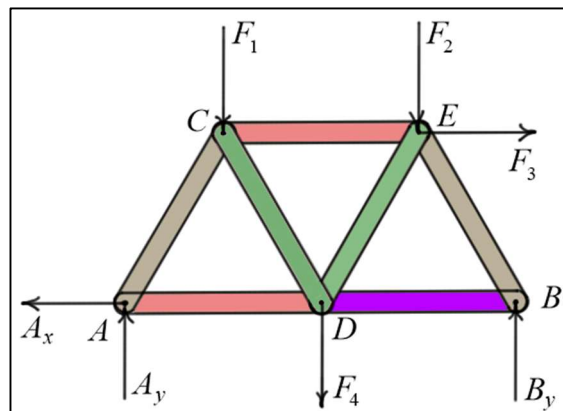

Fig. 2 Free Body Diagram of Truss
- The **external support reaction forces** holding the truss in equilibrium are found by treating the entire truss as a rigid body. First, **draw a free body diagram** of the truss (Fig. 2), then **write** and **solve** the equations of equilibrium.